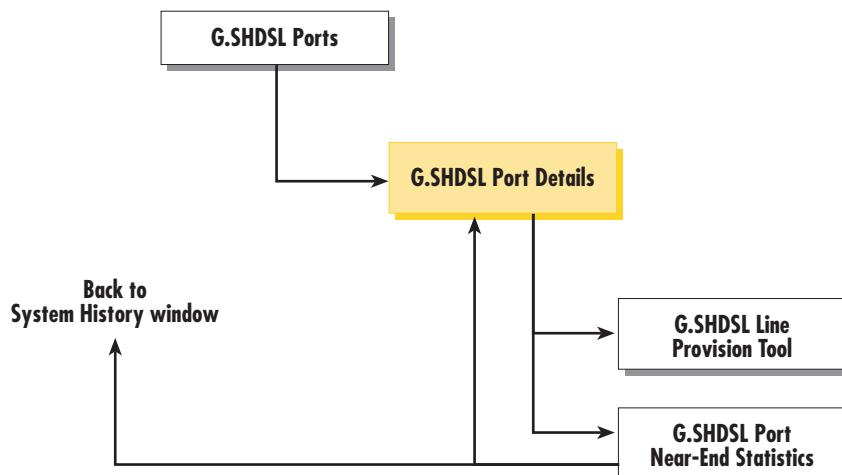

Figure 52. G.SHDSL Web Management windows map
The G.SHDSL Port Details window is related to other web management windows via links as show in figure 52.
- **Back**—Displays the previous page. When you click the **Back** button the T-DAC moves you back one level in the web management windows map (see figure 52 on page 114) to the *G.SHDSL Port Configuration* window.
- **Clear Errors**—Clears all errors on this port. Resets the port statistical error counters to zero. A burst of errors typically occurs during port activation. Five seconds after the port enters dataMode(1) the T-DAC will reset the statistical error counters to zero to clear these expected startup errors. The port error counts accumulate from that point forward. Each time you click the **Clear Errors** button the T-DAC will clear all errors for this port, resetting the counters to zero.